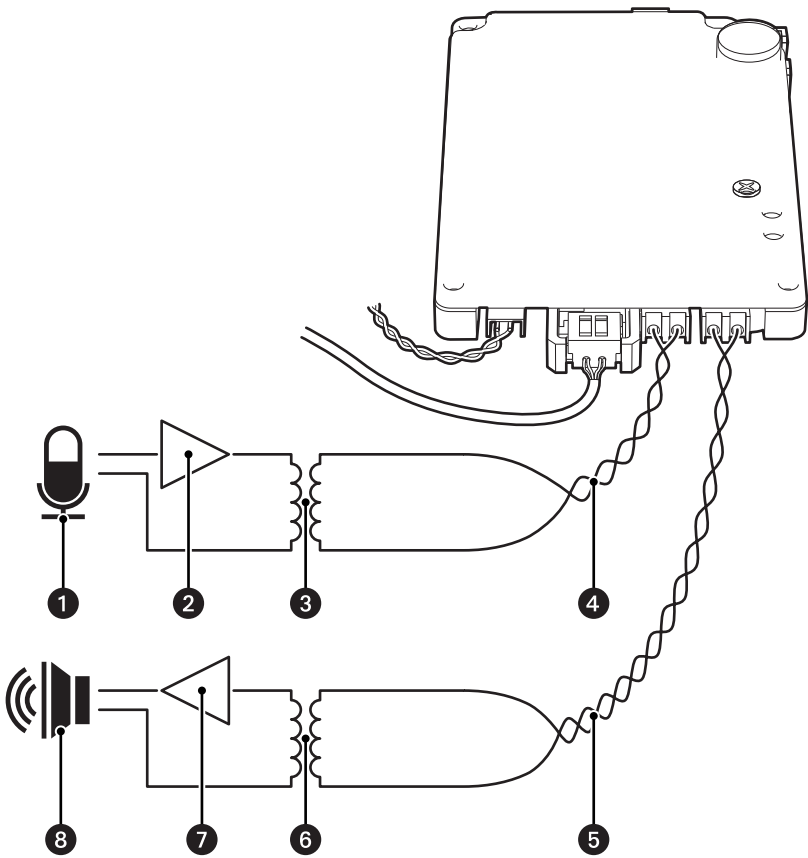

Figure 5. Audio Connections
- To take full advantage of the UTP distance and noise immunity benefits, you must use a 600-ohm impedance matching transformer (refer to Figure 5 on page 7).